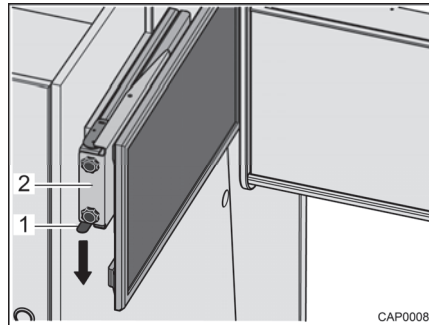

Fig. 57 Pull-out with flat screen
- Press catch spring (Fig. 57,1) downwards and pull pull-out (Fig. 57,2) with flat screen out horizontally towards the centre of the vehicle.
- Push the pull-out (Fig. 57,2) with flat screen horizontally as far as it will go. The catch spring (Fig. 57,1) engages audibly.